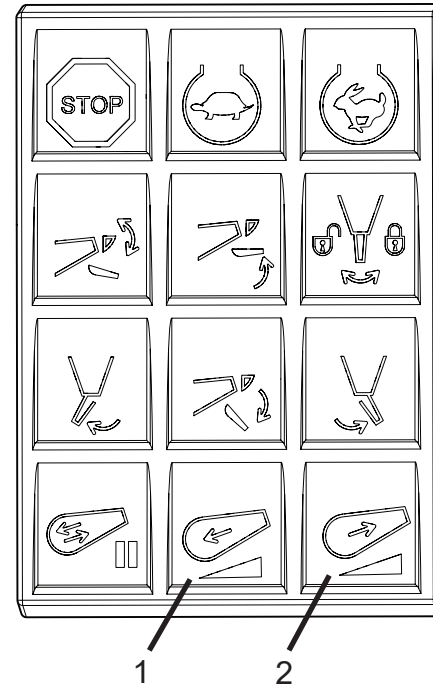

Figure 37
- If in-cab keypad or rear keypad pendant is selected, keep pressing the CHARGE (forward) (Figure 37, Item 1) or DISCHARGE button (backward) (Figure 37, Item 2) until the desired rotation speed is achieved. You may also press and hold the charge or discharge keypad buttons until desired rotation speed is achieved. The key indicators will illuminate only when pressed.